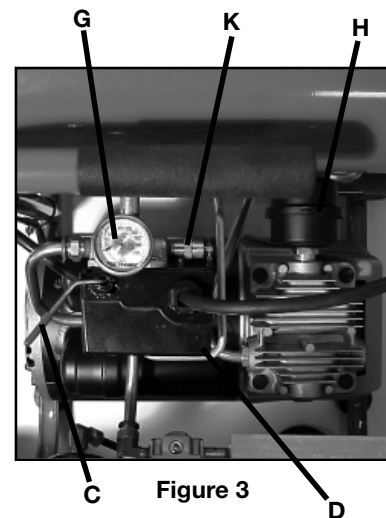

Figure 3
ON/AUTO - OFF Switch (C) Fig. 3: Turn this switch ON to provide power to the automatic pressure switch and OFF to remove power at the end of each use.
Pressure Switch (D) Fig. 3: The pressure switch automatically starts the motor when the tank pressure drops below the factory set “cut-in” pressure. It stops the motor when the air tank pressure reaches the factory set “cut-out” pressure.
Tank Pressure Gauge (G) Fig. 3: The tank pressure gauge indicates the reserve air pressure in the tank.
Air Intake Filter (H) Fig. 3: This filter is designed to clean air flowing into the pump. This filter must always be clean and free from obstructions. Twist filter cover counter-clockwise to remove and expose paper filter element.
Safety Valve (K) Fig. 3: If the pressure switch does not shut off the air compressor at its cutout pressure setting, the safety valve will protect against high pressure by “popping out” at its factory set pressure (slightly higher than the pressure switch cut-out setting).
10. Pull ring on safety valve (K) Fig. 3, allowing air to bleed from the tank until tank pressure is approximately 20 psi. Release safety valve ring.
NOTE: If drain valve is plugged, pull ring on safety valve (K) Fig. 3, and hold until all air pressure has been released. The valve can then be removed, cleaned, and reinstalled.